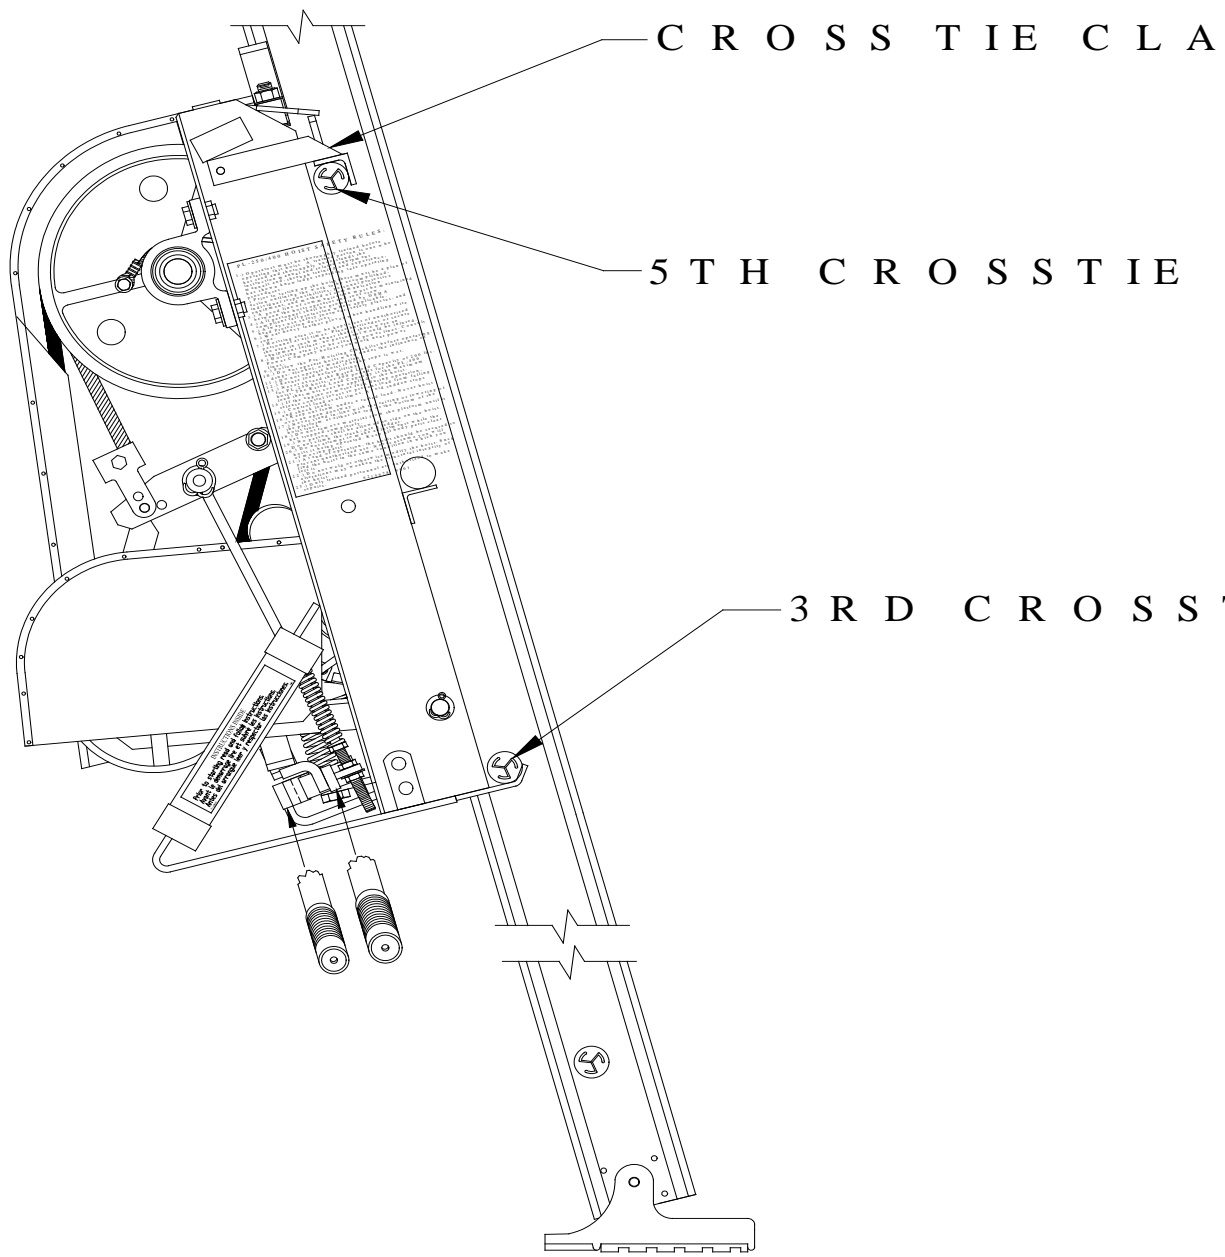

Figure 3-1.
3. Referring to Figure 3-1. and the instructions included with the additional crosstie stiffener install a cross tie stiffener in the 5th crosstie from the swivel shoe end of the base track section.
4. Mount the power drive in an essentially vertical position. **If the power drive is not vertical, the brake and clutch levers will not work and the engine may not operate.** Referring to Figure 3-1, position the power drive on the 3rd and 5th **reinforced track crossties** from the bottom with the clamp on the 5th crosstie. Power drive should be on the underside of the track. Center the drive between the track rails and lock in place by rotating the lock to the left. Insert a #38 lock pin in the hole provided to prevent lock from loosening. Fasten the operating handles on the power drive. When facing the power drive from the rear or building side of the track, the power drive operator handles will be on your right. Details on power drive startup are given in Chapter 4.